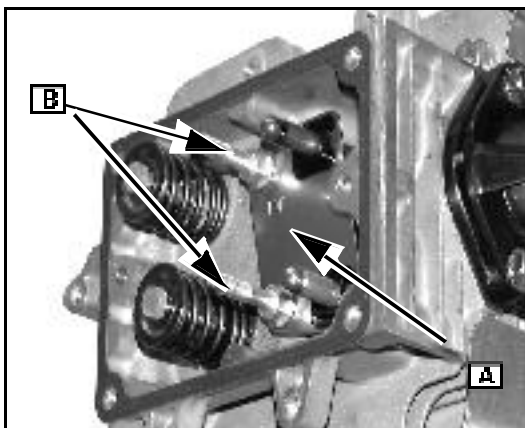
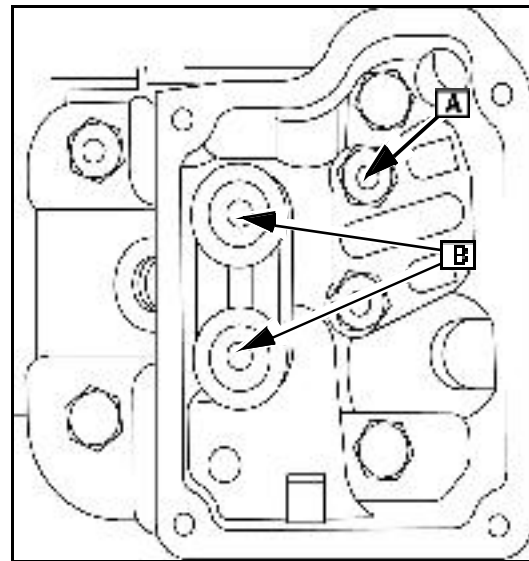

Fig. 17
Fig. 18
1. Place push rod guide (A) in cylinder head with word "TOP" (except 104700) toward Mag. side of cylinder head, Fig.17 or
- Torque studs ([B] Fig. 17 and Fig. 18) to value listed in **SECTION 14- ENGINE SPECIFICATIONS**.